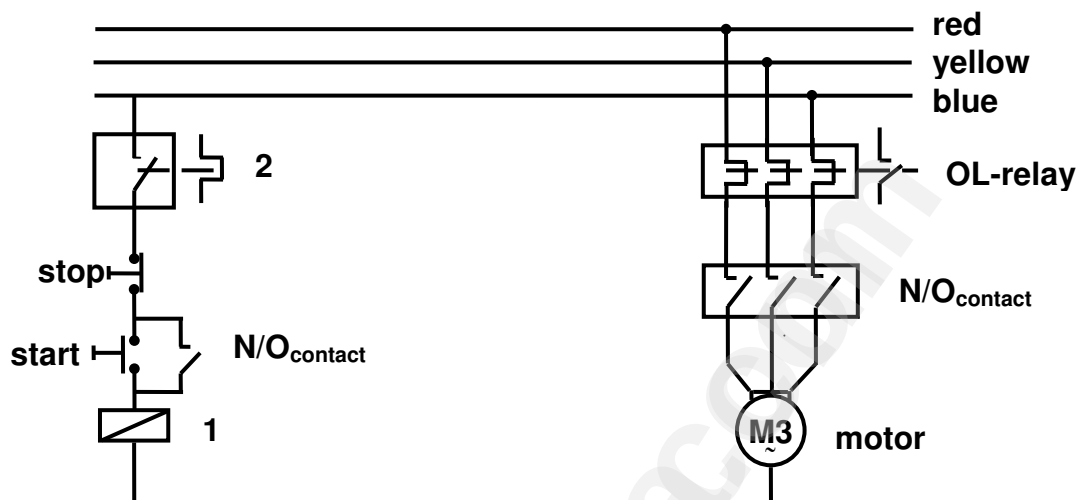

FIGURE 10.1: DIRECT-ON-LINE-STARTER
- 10.9 The circuit diagram shown in FIGURE 10.1 represents the control circuit and the power circuit of a direct-on-line-starter.